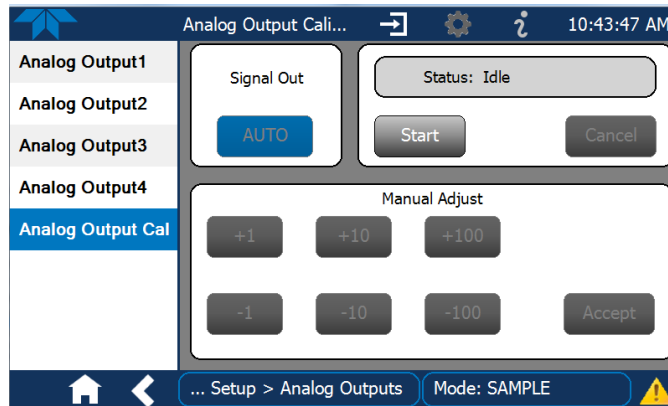

Figure 2-52. Analog Outputs Group Calibration Screen
- AUTO for group calibration (Figure 2-52) of the analog outputs (cannot be selected when Current is selected for the Range)